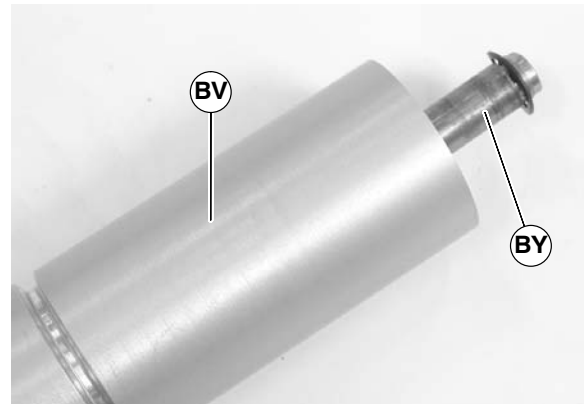

Figure 52
6. Slide the shaft assembly (BY of Figure 52) out of the pulley (BV).